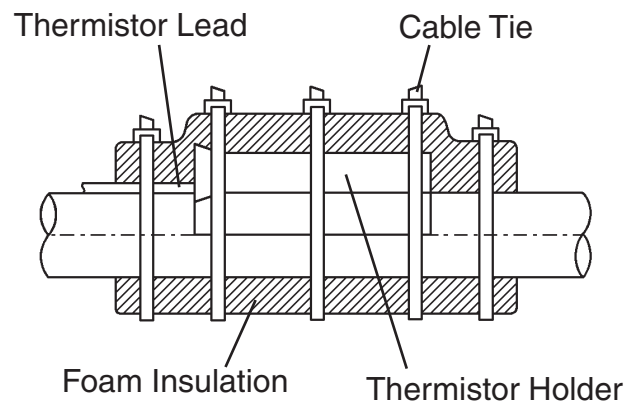

Fig. 1
5) Remove the plastic cable ties, foam insulation, thermistor holder and thermistor. See Fig. 1.